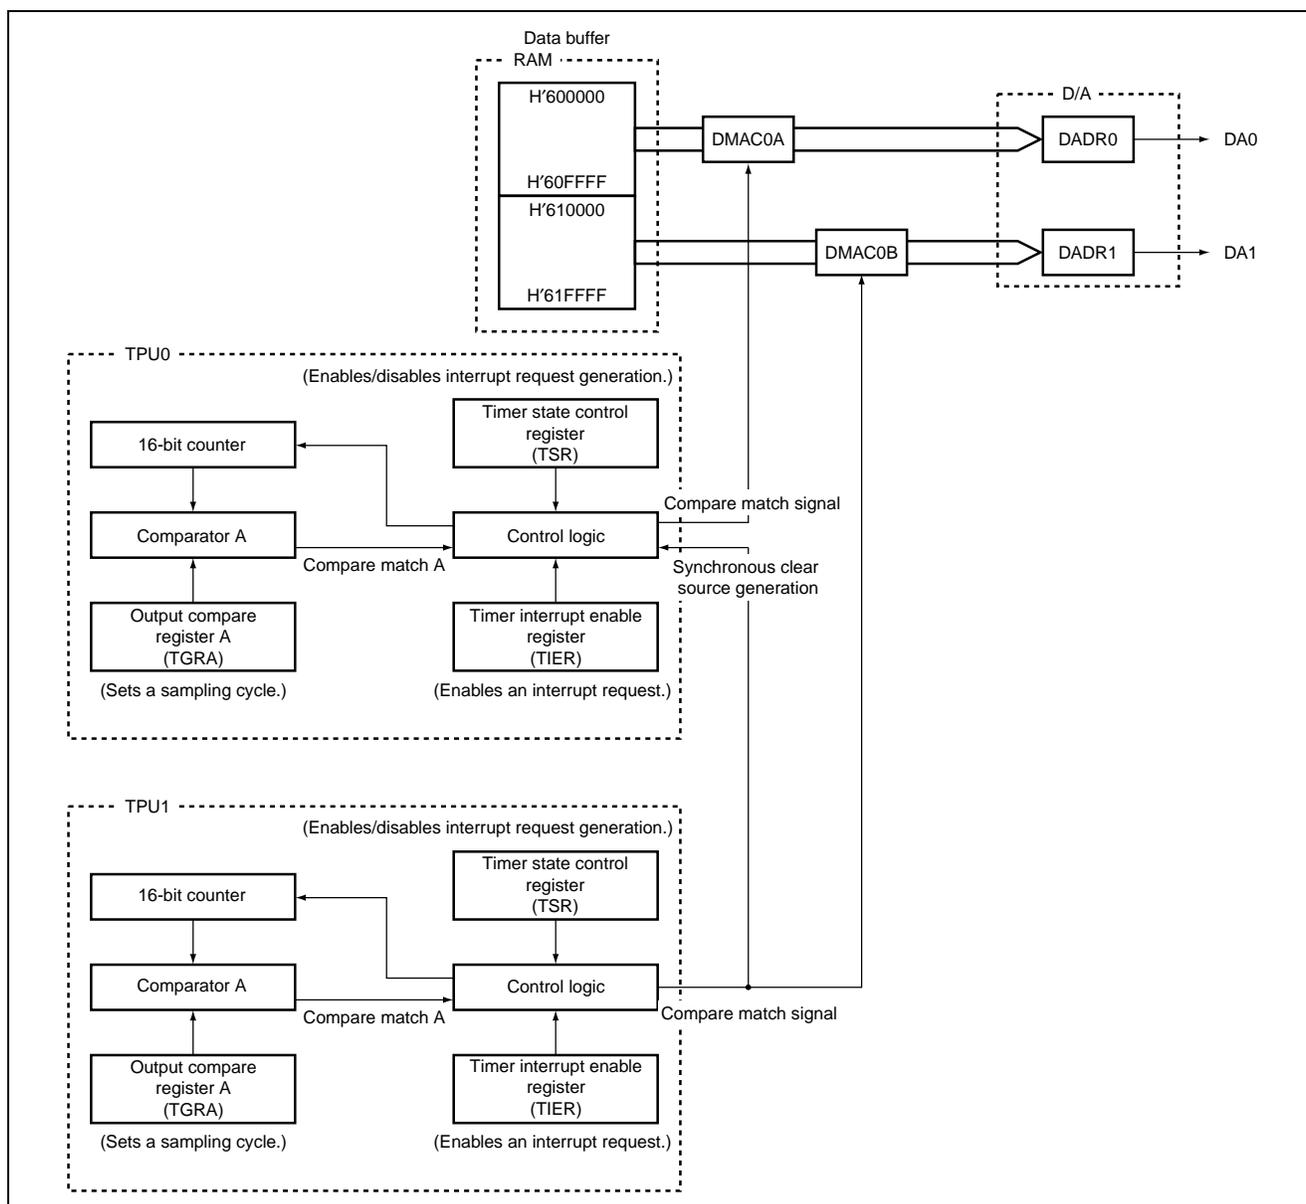

Figure 2 Block Diagram of Analog Output Circuit
- The block diagram of the DMACs, D/A, and TPUs to be used by this sample task is shown in figure 2. This sample task uses the H8S/2215 function as follows to perform D/A conversion: